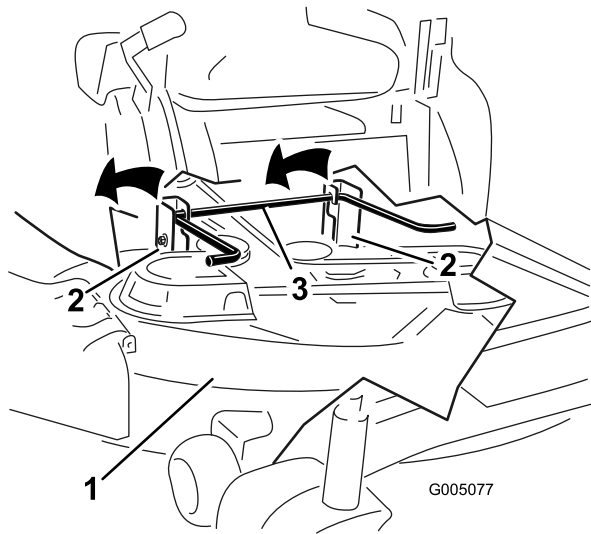

Figure 46
- Lift the mower deck and hanger brackets clear of the rear lift rod and lower the mower carefully to the ground (Figure 46).
- 5. Lift the rear of the mower deck and guide the hanger brackets over the rear lift rod (Figure 46).